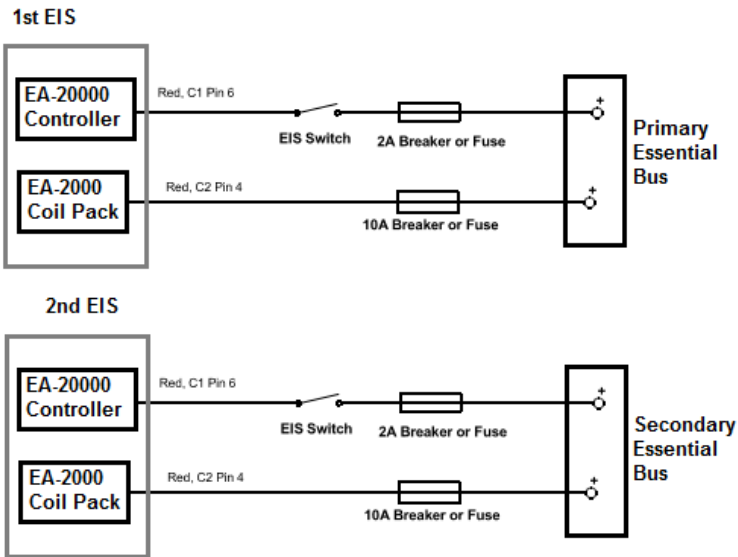

Figure 21: Single Engine, Dual EIS Dual Electrical System Power Connections
- 2.) **Dual EIS Installation with Dual Electrical System:** Connect each panel mounted switch to a 2-amp breaker or fuse. For one EIS kit, connect its 2-amp breaker or fuse to one Essential Bus Bar. For the other EIS, connect its 2-amp breaker or fuse to the other essential bus bar. **Note:** Keep track of what power source is connected to each EIS. See Figure 21.
- 2.) **Dual EIS installation with Dual Electrical System:** For each EIS, route the unterminated end of the Red wire from the harness through a 10-amp breaker (fuses may be used as an alternative to the breaker) to the same essential bus that the controller in the same EIS kit is connected too. Trim and terminate as required. See Figure 21.
- ii. **Dual EIS installation using dual electrical systems:** Connect C2-Pin 4 and C1-Pin 6 of one EIS to one electrical system (through 10A and 2A breaker or fuses). Connect C2-Pin 4 and C1-Pin 6 of the 2nd EIS to the other electrical system (through 10A and 2A breaker or fuses). Figure 21.